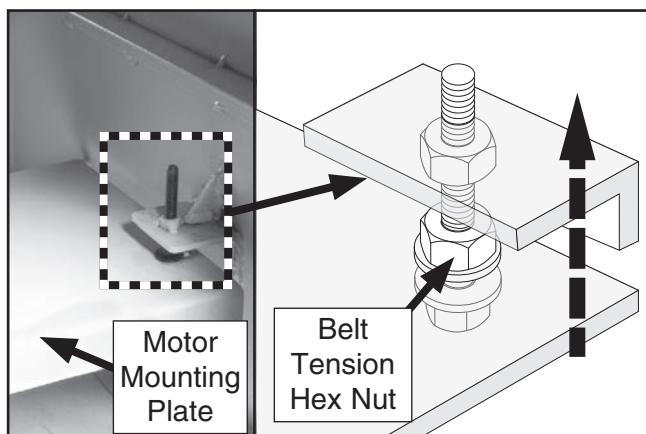

Figure 49. Location of belt tension hex nut for raising/lowering motor plate.
3. Turn belt tension hex nut (see **Figure 49**) clockwise to raise motor mounting plate (loosen belt tension) to remove belts from pulleys.
Turn belt tension hex nut (see **Figure 49**) counterclockwise to lower motor mounting plate (increasing belt tension) to secure belts for operation.